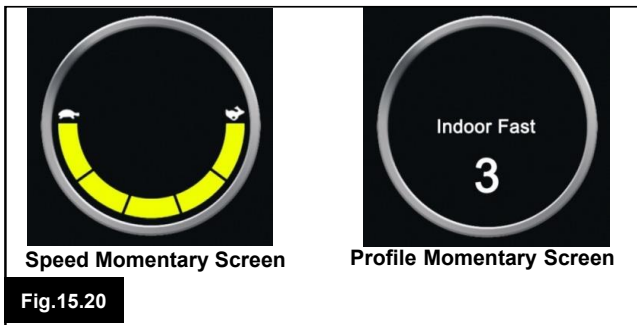

Fig.15.20
15.5.1.8 Momentary Screens (Fig 15.20)